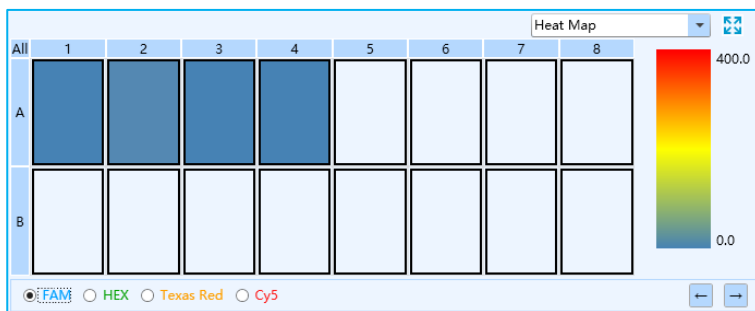

Figure E-8.6. Run Monitoring Interface - Heat Map Function Module
6. **Heat Map:** It displays the real-time fluorescence heat map of current running experiment, as shown in figure E-8.6.